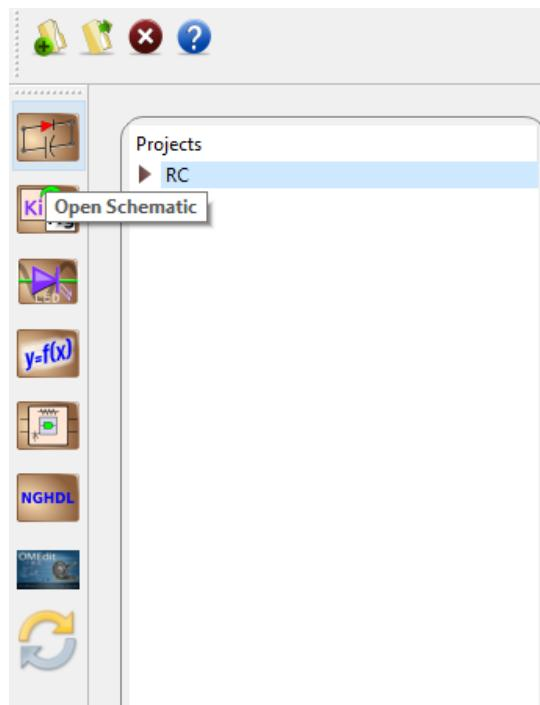
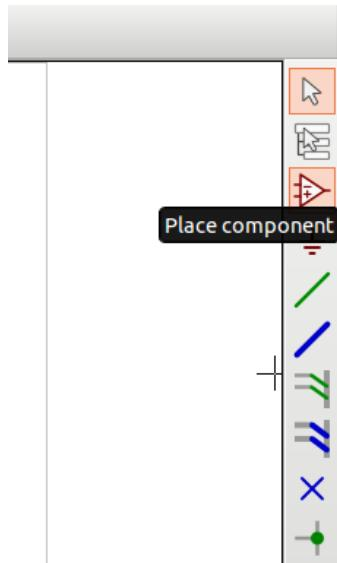

Figure 11.2: Open Schematic Editor
Figure 11.3: Place Component Icon
- Creating the Schematic: To create the schematic, click the very first icon of the left toolbar as shown in the Fig. 11.2. This will open KiCad Eeschema.
To create a schematic in KiCad, we need to place the required components. Fig. 11.3 shows the icon on the right toolbar which opens the component library.
- **Creating Schematic:** To create the schematic, click the very first icon of the left toolbar as shown in the Fig. 11.2. This will open KiCad Eeschema.
After the KiCad window is opened, to create a schematic we need to place the required components. Fig. 11.3 shows the icon on the right toolbar which opens the component library.
- Creating Schematic: To create the schematic, click the very first icon of the left toolbar as shown in the Fig. 11.2. This will open KiCad Eeschema. After the KiCad window is opened, to create a schematic we need to place the required components. Fig. 11.3 shows the icon on the right toolbar which opens the component library. After all the required components of the inverting amplifier circuit are placed,
- Creating Schematic: To create the schematic, click the very first icon of the left toolbar as shown in the Fig. 11.2. This will open KiCad Eeschema.